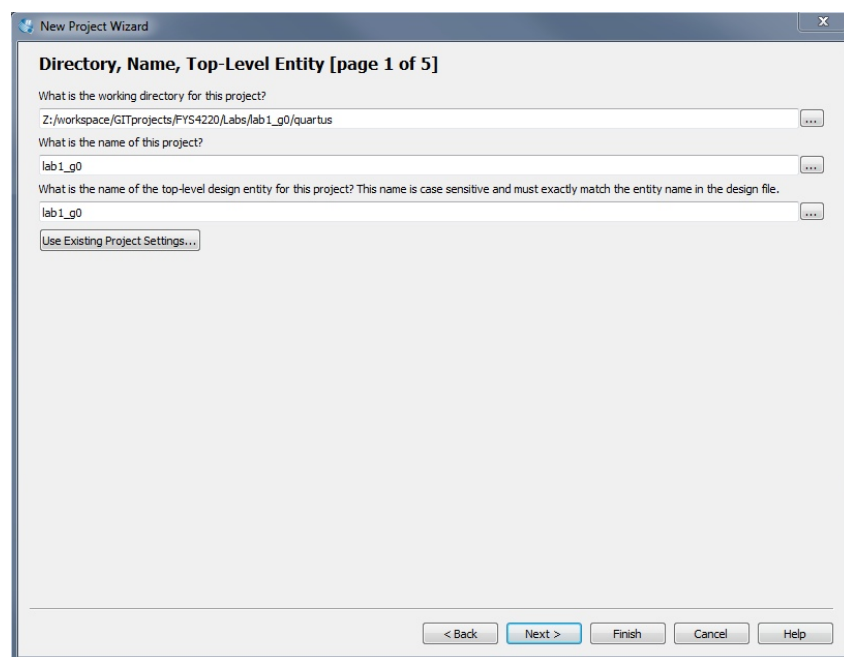

Figure 2:
3. Create a new Quartus II project (from File -> New Project Wizard) called lab1_gx (replace x with your group number) and choose lab1_gx/quartus as the working directory . The name of the top-level design will automatically take the same name as the project. Keep this name. Press Next (Figure 2).